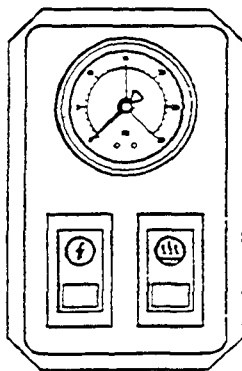
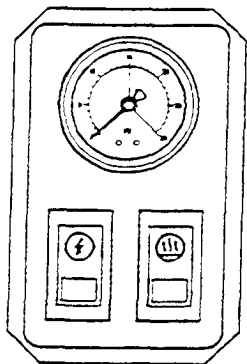

Figure 2-17. Steam Generator Controls Pressure Units Only
Figure 2-19. Steam Generator Controls Pressure Units Only
**Steam Generator Control Panel** is shown in Figure 2-17, page 37 and Figure 2-19, page 39.
- b. About 10 minutes after starting the steam generator heating components, the Steam Pressure Gage on the steam generator control panel (Figure 2-17) should register 10 psi.